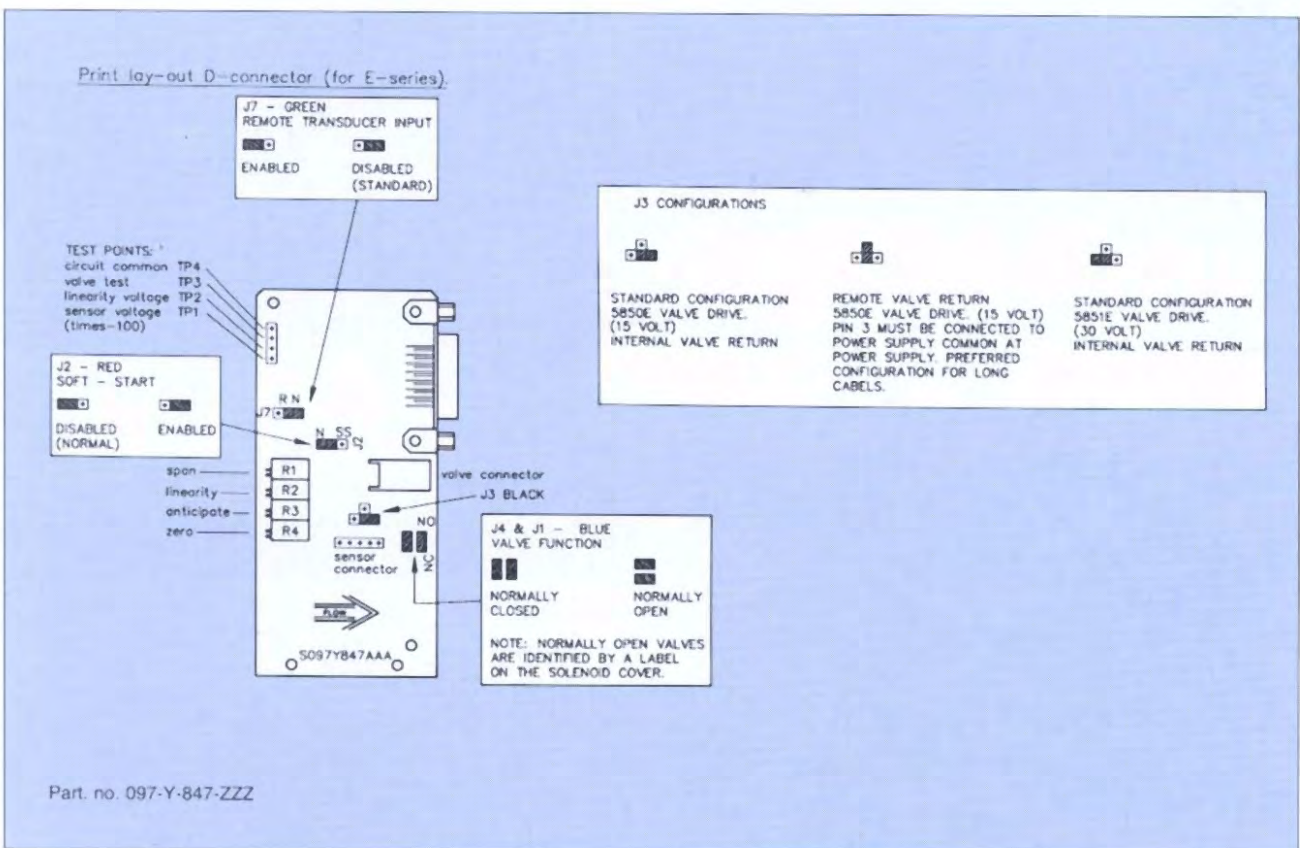

Figure 3-4 "D" Type Connector PC Board Jumper Location & Function Models 5853E/5863E
4. Verify that all user selectable jumpers are in their desired positions. Refer to figures 3-4, 3-5 or 3-6.